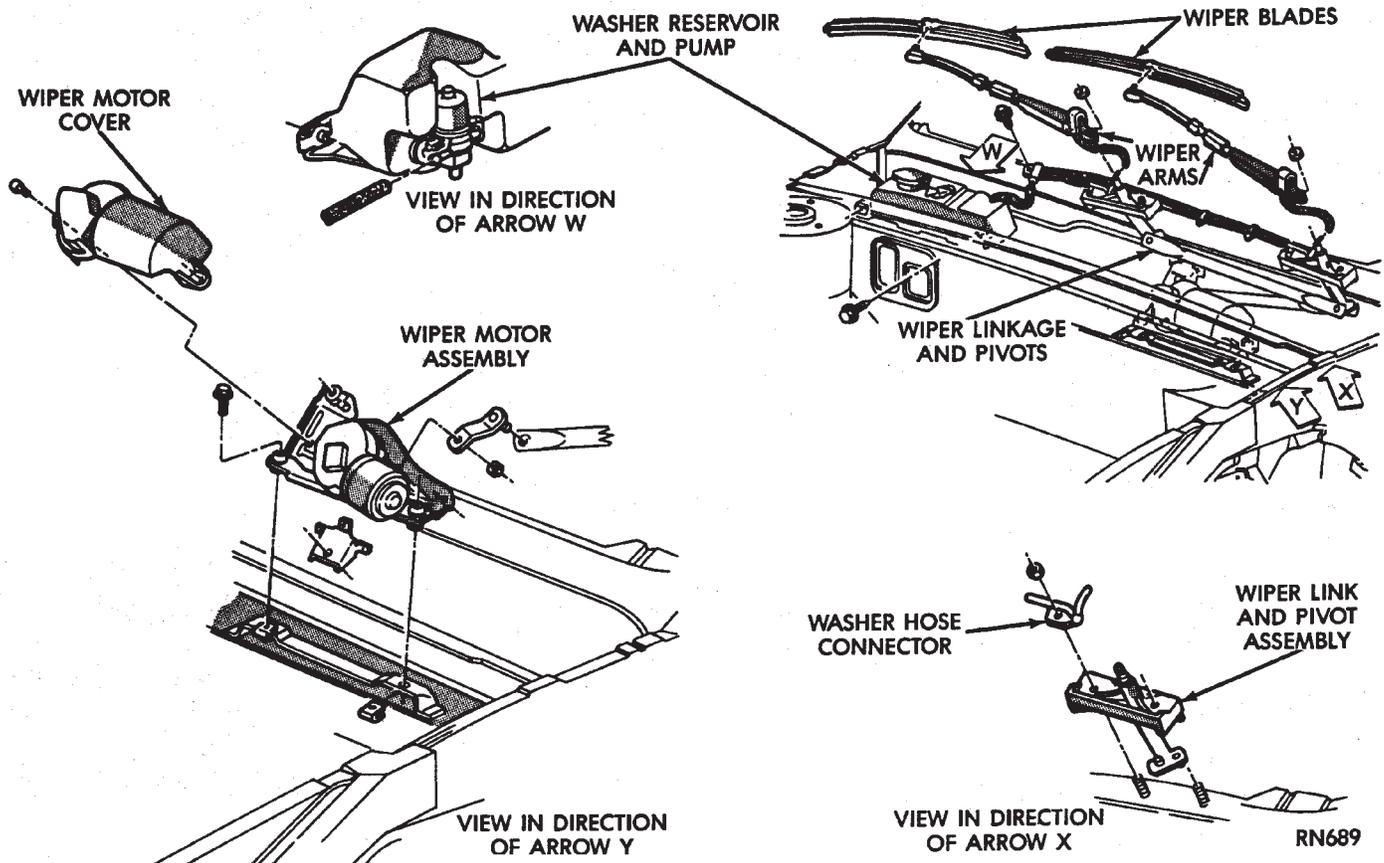

Fig. 21 Windshield Wiper Motor and Linkage—AP BODY
- (1) Open hood assembly.
- (2) Remove wiper arms (Fig. 21).
- (3) Remove cowl top plastic cover.
- (4) Disconnect the wiper motor wiring harness.
- (5) Remove retaining nuts from the pivot mounting studs.
- (6) Remove the three bolts that attach motor mounting bracket to body.
- (7) Remove wiper motor, bracket, and linkage assembly from cowl plenum.
- (8) Clamp motor crank in a vise and remove nut from end of motor shaft. **Do not rotate motor output shaft from PARK position.**